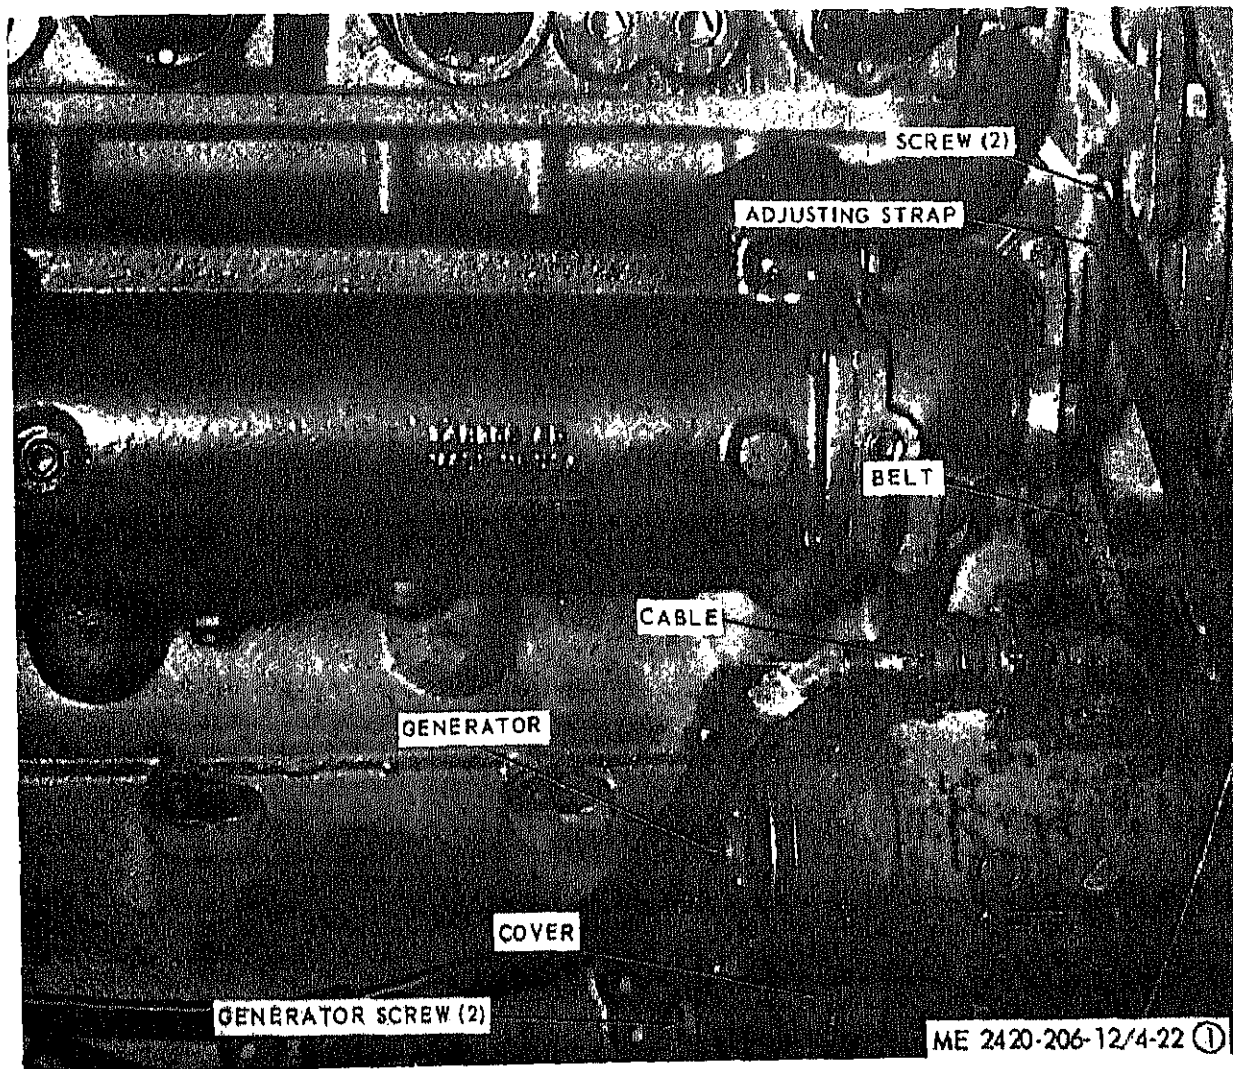

Figure 4-22. Generator repair, removal and installation (sheet 1 of 2).
(1) Remove generator drive belt as illustrated in figure 4-22.